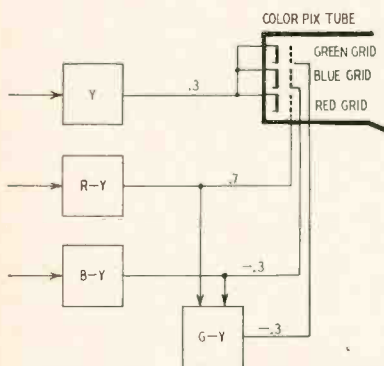
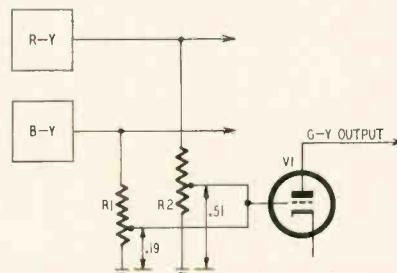

Fig. 1—A simple matrix arrangement. The cathode and grid signal voltages on color tube reproduce saturated red.
Fig. 2—Layout of the G-Y matrix.
**A** MATRIX is a very simple device, and its operation can be easily understood if a person goes at it right. Consider the R-Y B-Y matrix system (Fig. 1) which makes extensive use of the color picture tube as a matrix.
4. NOTE CAREFULLY: If we turn on the color killer switch, only Y remains at the cathodes (Fig. 1); there is no output to the red, green and blue grids. Now the cathodes are driving the red, blue and green guns (in balanced fashion) and a 30% gray is seen on the screen of the color picture tube instead of a saturated red. This is compatibility.
Fig. 1 shows that the outputs from the R-Y and B-Y detectors are applied to the G-Y matrix as well as to the grids of the color picture tube. The principle of the G-Y matrix is shown in Fig. 2. Resistor attenuators R1 and R2 apply 0.51(R-Y) to the grid of V1, and 0.19(B-Y) to the grid of V1. The function of V1 is to make the signal negative instead of positive. In passing through a stage of amplification, a positive-going signal is converted to a negative-going signal. In other words, R1, R2 and V1 perform the operation:
The Y signal is applied directly to the cathode of the color picture tube, as seen in Fig. 1. The R-Y signal of 0.7 is applied to the grid of the red gun. The B-Y signal of -0.3 is applied to the grid of the blue gun. The green matrix operates to form a G-Y signal equal to -0.3 from the R-Y and B-Y signals, and this -0.3(G-Y) signal is applied to the green gun, as shown in Fig. 1. The R-Y signal and the Y signal are both positive and add to 100% (fully saturated red). But the B-Y signal has an opposite polarity to the Y signal and cancels so that there is no output from the blue gun. Likewise, the G-Y signal has an opposite polarity to the Y signal and cancels so that there is no output from the green gun. Only the red gun is in operation and a saturated red hue appears on the screen of the color picture tube.
Answer: The understanding of this situation follows from the foregoing points. It is helpful to recognize that G-Y is not transmitted as such (Fig. 1), but is *implicit* in R-Y and B-Y. The G-Y matrix *always* mixes -0.51 R-Y with -0.19 B-Y, no matter what color is being transmitted, and recovers the G-Y signal for any color. For example, the G-Y signal for a saturated green is 41%, for a saturated blue -11%, for a saturated yellow +11%. END